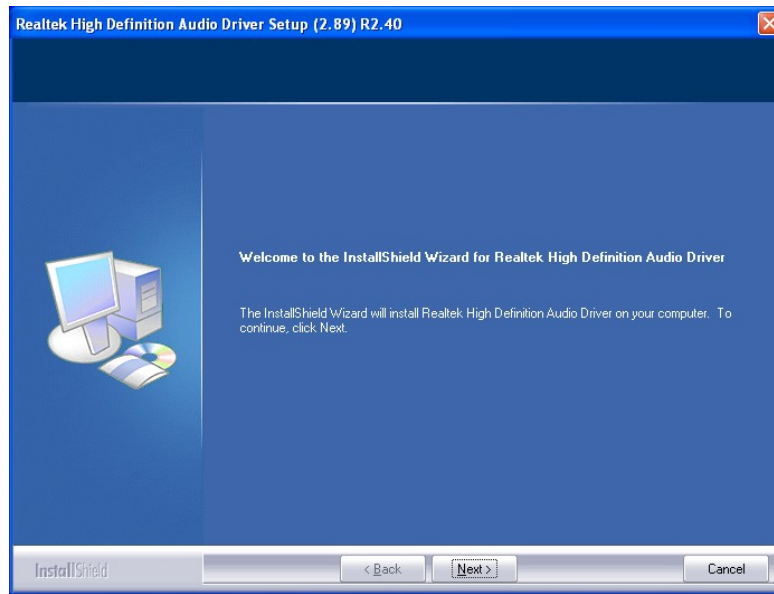

Figure 7-14: Audio Driver Welcome Screen
- Step 4:** The **Audio Driver Welcome Screen** in **Figure 7-14** appears.